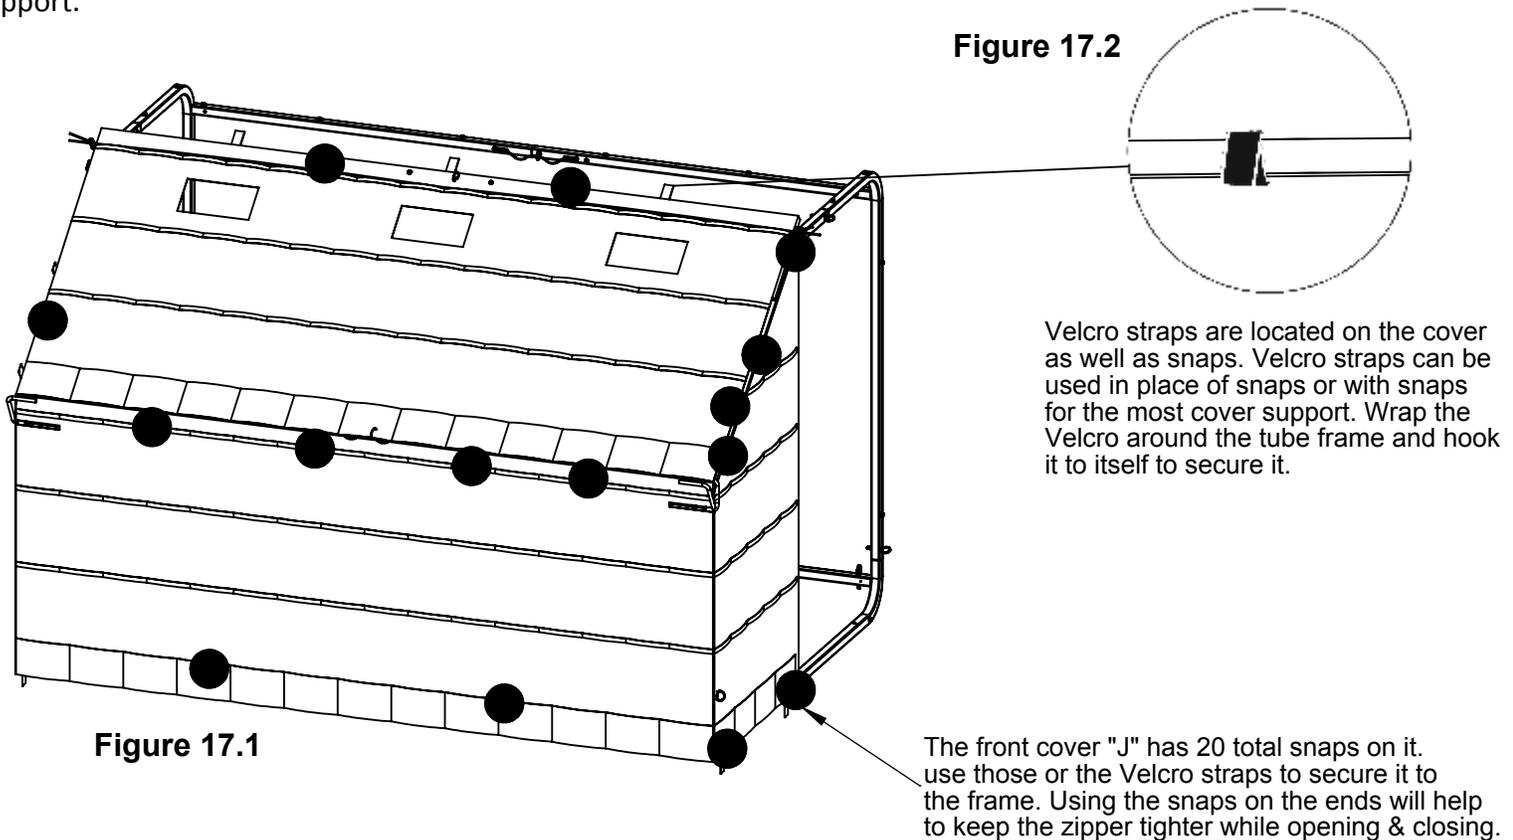

**Figure 15.1**
**STEP 7:** Find the top door assembly with legs "E", and connect the middle section together making sure that both legs are facing the same direction, figures 15.2 & 15.3. Once the middle section is snapped together, fold the legs on both ends down and slide them over the tube lugs on the bottom door assembly "D". Make sure that the snap buttons on part "E" are facing outward away from the blind, see figure 15.1. This step should complete the frame assembly.